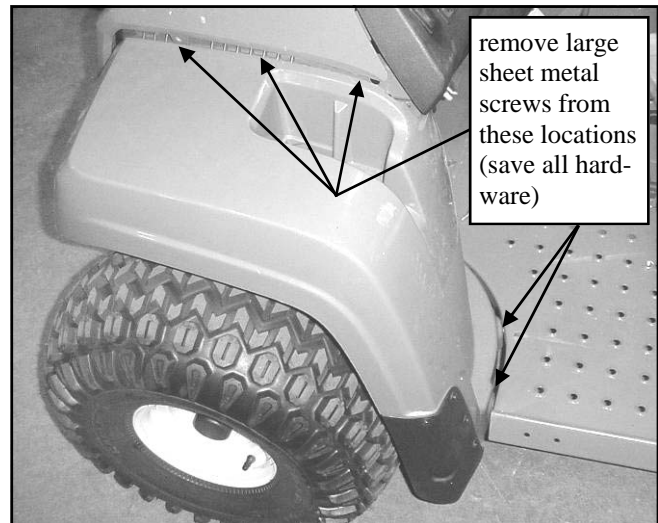

Fig. 3.1
3.1 Remove five (5) original equipment sheet metal screws from underneath the plastic fender in the locations shown in figure 3.1. Repeat for opposite side. This vehicle preparation is to allow the installation of the front brackets in the next step. Save all hardware for re-installation later.